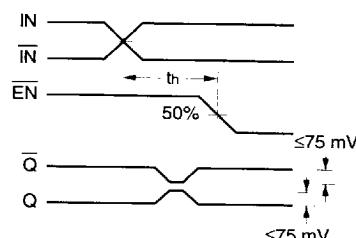

Figure 2. Hold Time
6. The hold time is the minimum time that EN must remain asserted after a negative going IN or a positive going \bar{IN} to prevent an output response greater than $\pm 75mV$ to that IN/IN transition (see Figure 2).